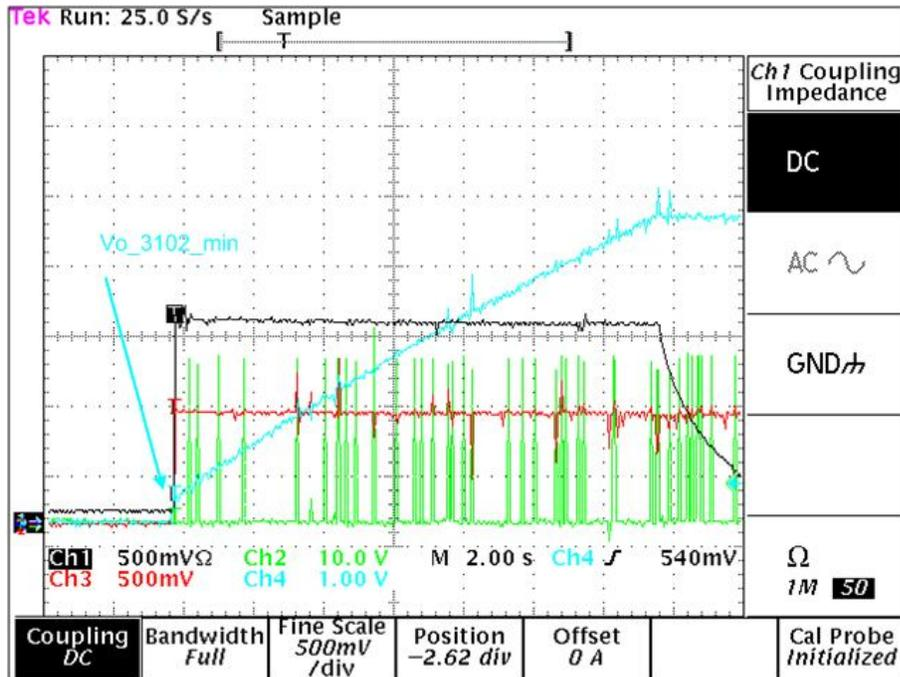

Figure 3 – Plot for the SuperCap Application
At startup, the capacitor is not charged yet and thus the output voltage of the LM3102 is very small ($V_{\text{O}_3102_MIN}$, see Figure 3). Therefore, at this point, the output current is at its maximum (I_{MAX}). When the output voltage is at its nominal, then the output current will settle to the desired target value. Because a large current error is not desired, R_{OUT} needs to be chosen to stabilize the loop with minimal initial startup current error. Follow the equations and example below to choose the appropriate value for R_{OUT} to minimize this initial error.
- b) Calculate for R_{OUT} , assuming that the minimum output voltage for the LM3102 is 0.6V (see figure 3).
A plot for the load current (black), output voltage of the LM3102 (blue), voltage the feedback pin of the LM3102 (red), and switch frequency of the LM3102 (green), can be seen in figure 3.